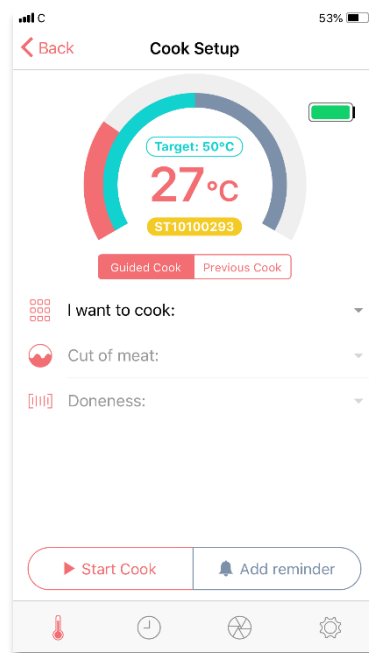

Figure 7. Display of Cook Setup
2. Tap the area of the information of the probe on the “Available Probes” screen, the “Cook Setup” screen will be shown in Figure 7.